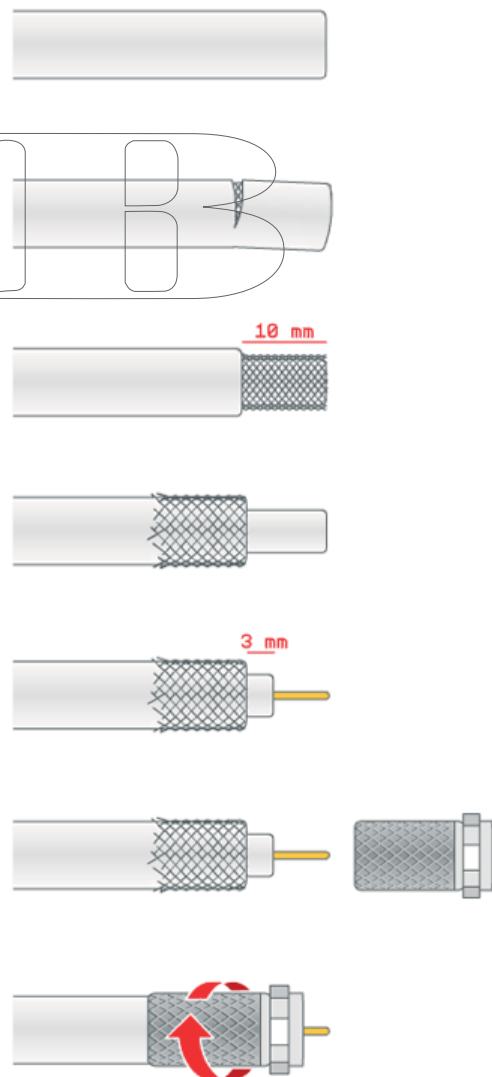

Fig. 14
- Should it be necessary to shorten the cable, please refer to the instructions given in Fig. 14.